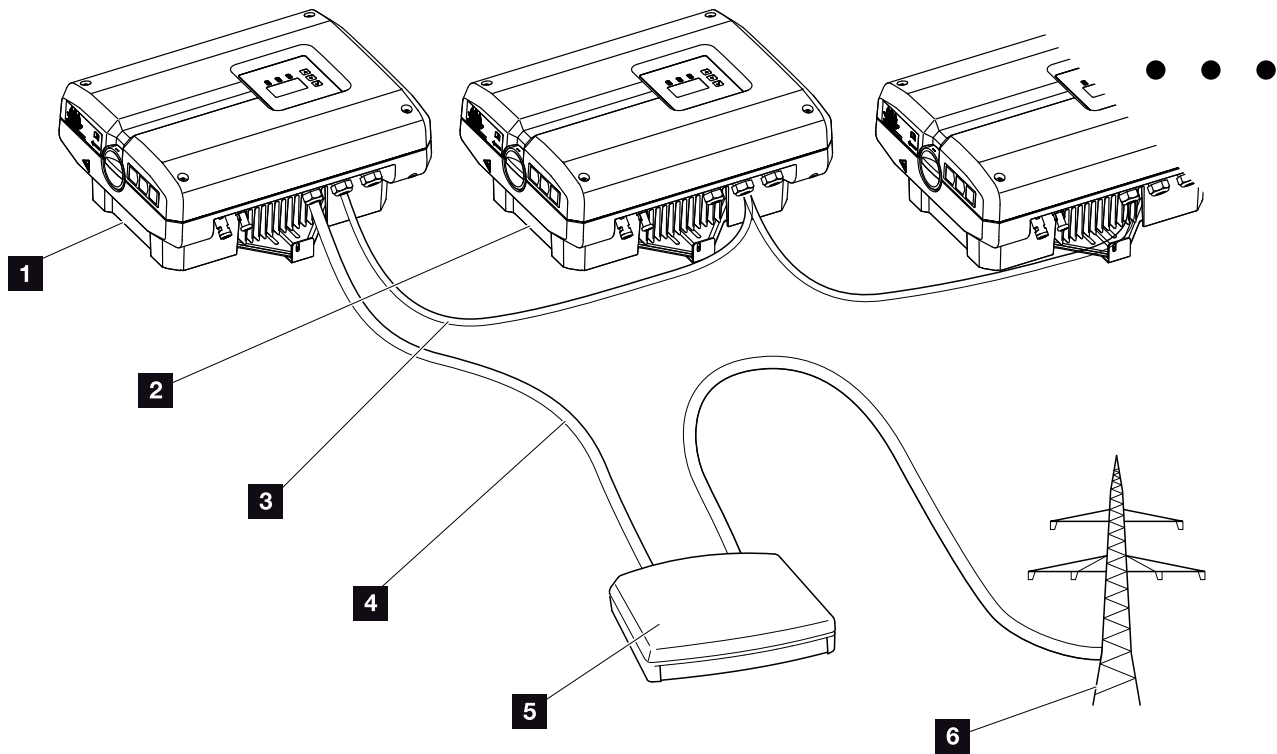

Fig. 57: Configuration of the ripple control receiver with several inverters (Ethernet networking)
🔗 **Fig. 57**
3. Connect the ripple control receiver to the master inverter 🔗 **Fig. 57 It. 1** on the terminal (10-pin).
The ripple control receiver may only be connected at the master inverter. 🔗 **Fig. 57**